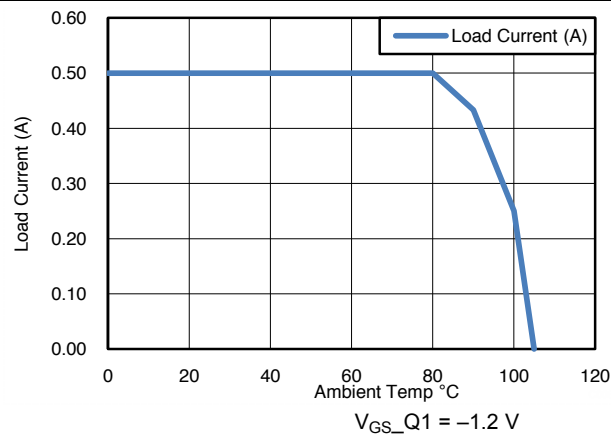

Figure 12. Q1 Safe Operating Area
- (1) Stresses beyond those listed under *Absolute Maximum Ratings* may cause permanent damage to the device. These are stress ratings only, which do not imply functional operation of the device at these or any other conditions beyond those indicated under *Recommended Operating Conditions*. Exposure to absolute-maximum-rated conditions for extended periods may affect device reliability.
- (2) Refer to TI's design support web page at www.ti.com/thermal for improving device thermal performance.
- (3) Pulse width <300 μs , duty cycle < 2%
- (4) $T_{J(max)}$ limits and other related conditions apply. Refer to SOA charts, Figure 8 through Figure 12.
- (5) Operating at the absolute $T_{J(max)} = 150^{\circ}\text{C}$ can affect reliability. For higher reliability, TI recommends maintaining $T_J < 105^{\circ}\text{C}$.